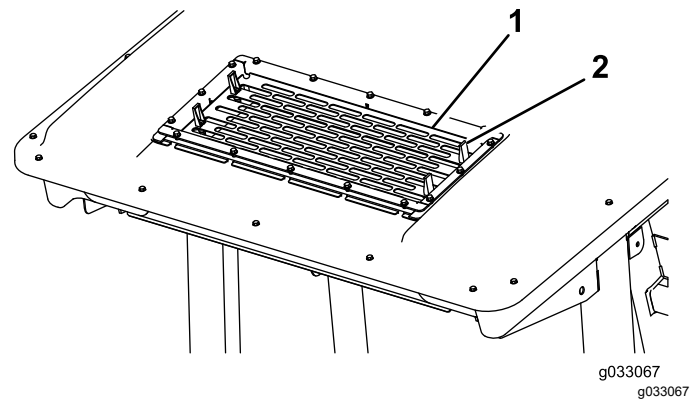

Figure 93
2. Lift the 4 tabs on the air-conditioning screen (Figure 93) and remove the screen from the top of the cab.